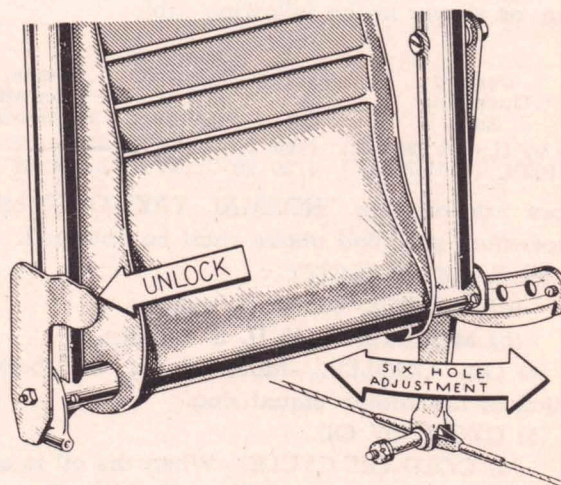

Figure 13—Rudder Pedal Adjustment
a. AILERON, ELEVATORS, AND RUDDER.—These controls are conventional, operated by the usual control stick and standard underhung rudder pedals. The pedals are adjustable by means of a spring loaded plunger located on the inboard side of each pedal. (See figure 13.)